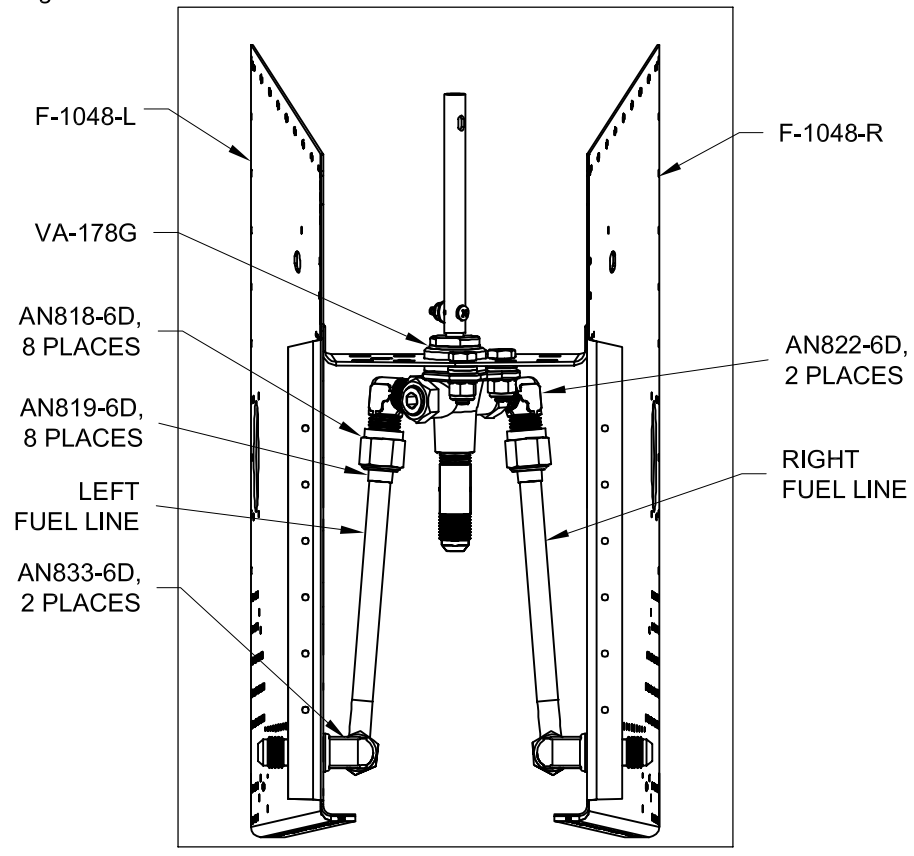

FIGURE 3: TUNNEL FUEL LINES AFT VIEW
Step 4: Install the two 10.5 inch fuel lines in the tunnel (between the F-1048-L and -R Fwd Fuselage Ribs) from the AN822-6D 90.0° pipe fittings on the VA-178G Fuel Valve to the AN833-6D 90.0° bulkhead fittings on the Fwd Fuselage Ribs, as shown in Figure 3.